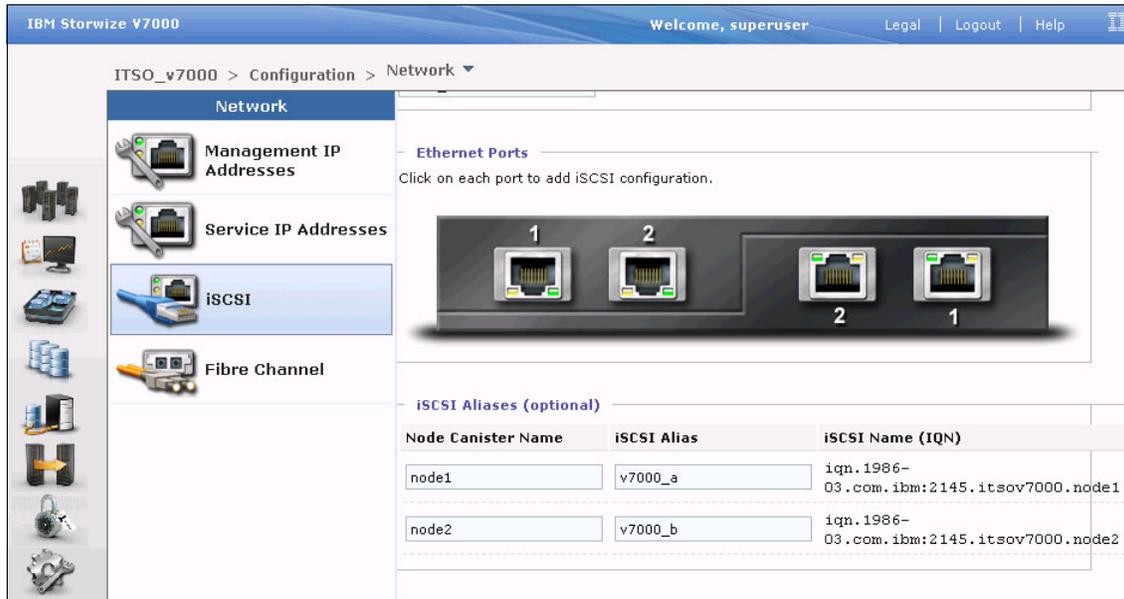

Figure 10-117 Ethernet Ports window
2. From the Configuration menu, select **Network** → **iSCSI** (Figure 10-117).
- b. Define the Canister Names and iSCSI Alias (see Figure 10-117 on page 361).